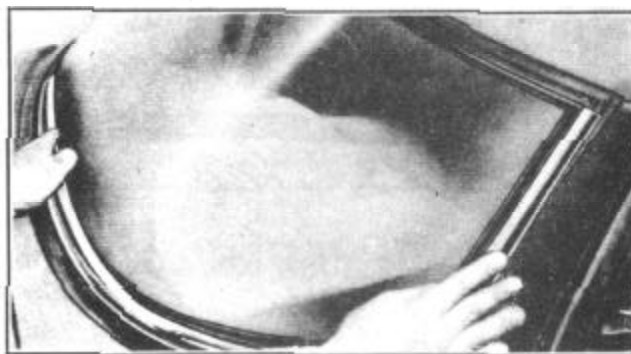

FIGURE 64
1. Install lower right and left reveal mouldings, by press in g lip of moulding into groove in weatherstrip as shown in Figure 64.